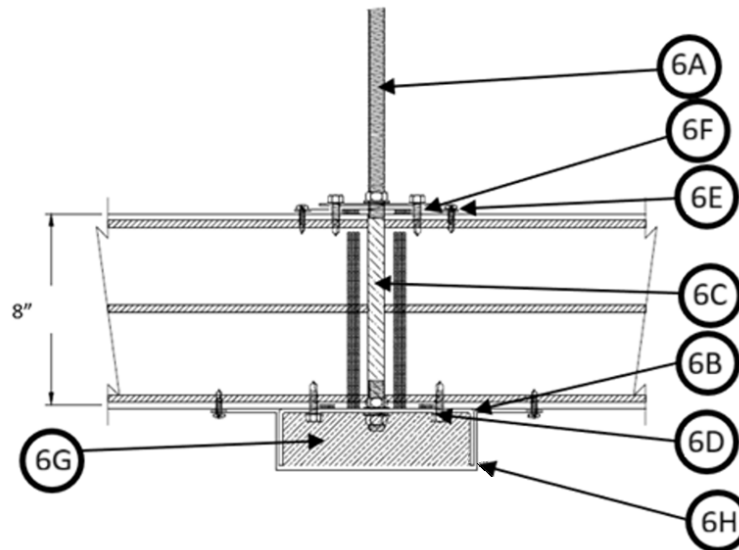
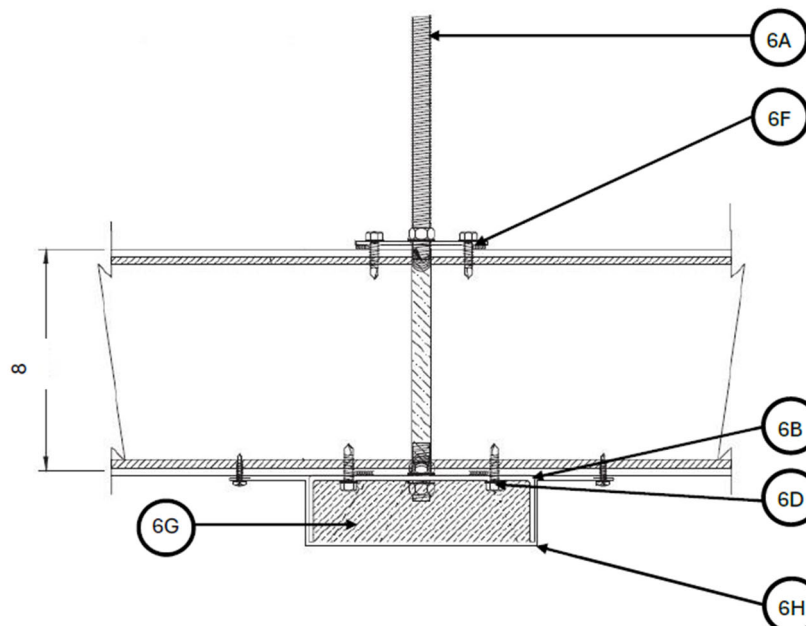
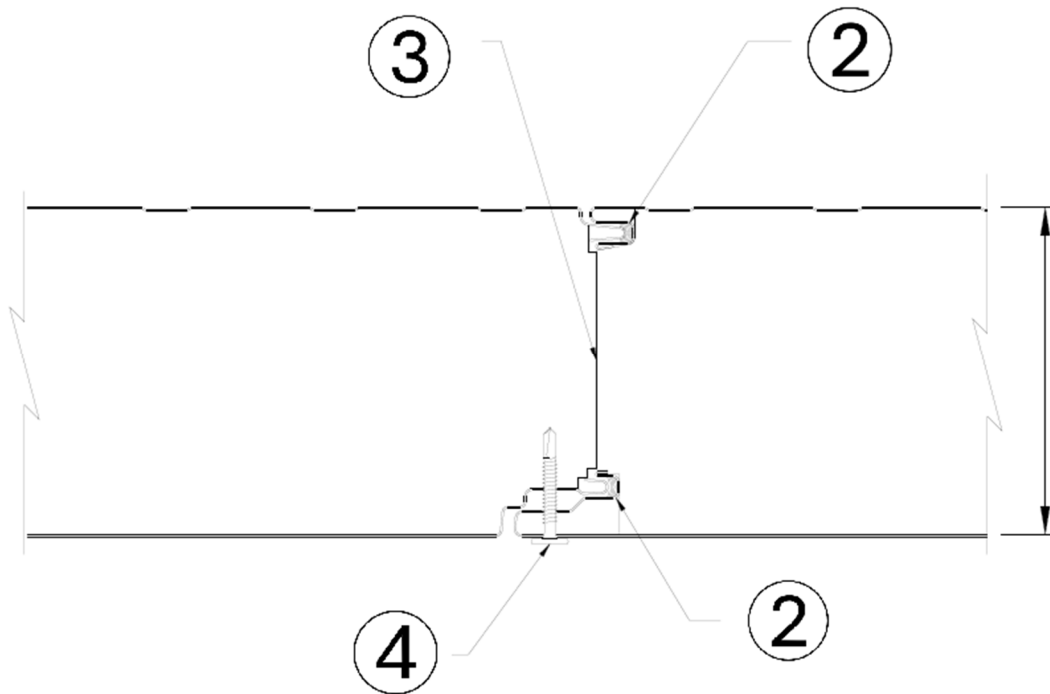

Figure 1. Butt Joint W/Hanger
Figure 2. Mid-Panel W/Hanger
Figure 3. Interlocking Panel Joint
Refer to **Figures 1 and 4** for butt joints, and **Figure 3** for interlocking joints.
3. **INTUMESCENT:** Refer to **Figure 3**. Use Promat Promaseal®-LW intumescent tape with the widths described below.
structural member (not shown). The max. hole diameter for the rod installation shall be 1/8 in. greater than the rod diameter. Threaded rod shall be installed between the panel butt joint as shown in **Figure 1**. Alternatively, the rod can be installed through the middle of the panel, as shown in **Figure 2**. For installation at mid-span locations, apply 3M Fire Barrier CP 25WB+ sealant at the penetration points at the top and bottom of the panels. Maintain a max. of 5 ft. oc ceiling channel spacing.